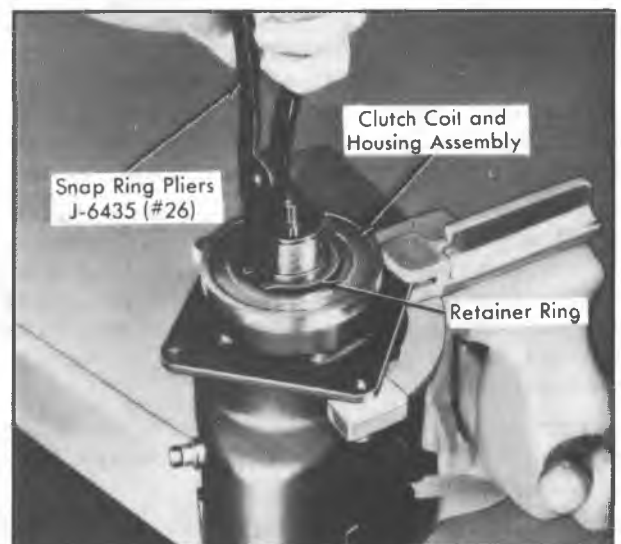

Fig. 16--Removing Coil Housing Retainer Ring
4. Remove coil housing retaining ring using Snap-Ring Pliers J-6435 (#26) (Fig. 16).